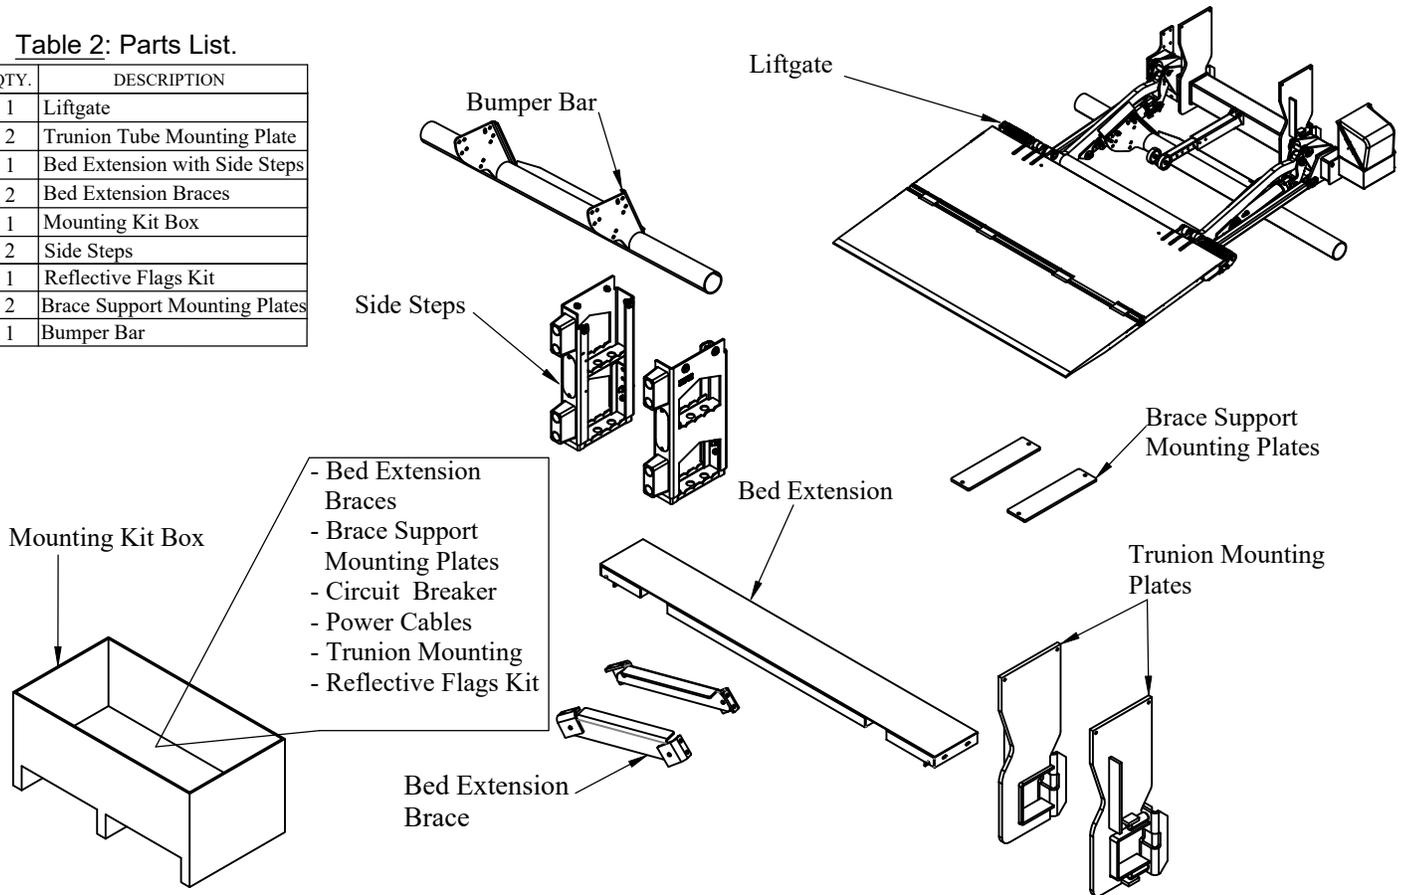

Figure 7: Part Identification.
2. **Verify** parts list (Table 2) and inspect for missing or damaged parts (Figure 7).